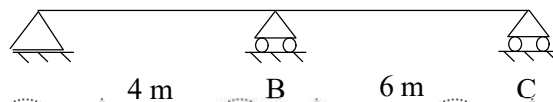

Figure 8
10. Determine the ordinates of the influence line for R_A and R_B at 1 m interval for the continuous beam as shown in figure 8. Assume EI is constant. [10]